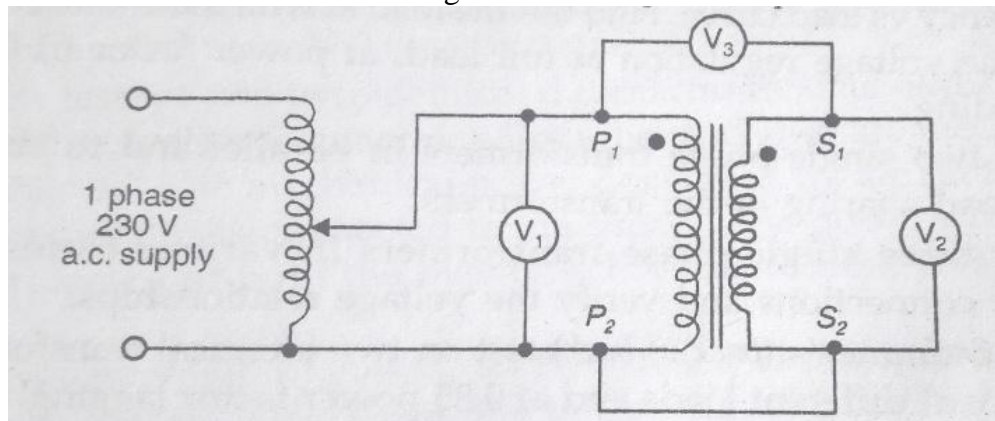

Figure 2: Circuit for Polarity Test
For determining the polarities of primary and secondary windings of a transformer, following procedure and the set up as shown in figure 2 can be used. Let us first of all mark the terminal P_1 of the primary winding of transformer under test as positive. We indicate this by putting a dot at the terminal P_1 . If the supply frequency is 50Hz then the terminal P_1 and P_2 interchange the polarities 50 times a second. The same is true with the secondary terminals S_1 and S_2 . The purpose of this experiment is to determine out of S_1 and S_2 which one is at positive potential at the time when P_1 is at positive terminal. For this we connect P_2 and S_2 so that P_2 and S_2 are at the same potential at all instants of time. Now there are two possibilities about the polarities of P_1 and S_1 .
1. Connect the circuit as shown in Figure 2.